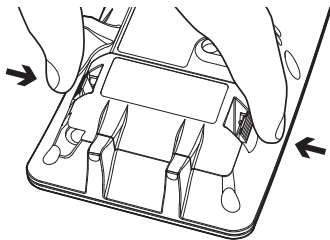

fig1
1. Remove the battery cover on the back of the Low Frequency Sounder by pressing the tabs on either side of the battery cover as shown (fig 1).